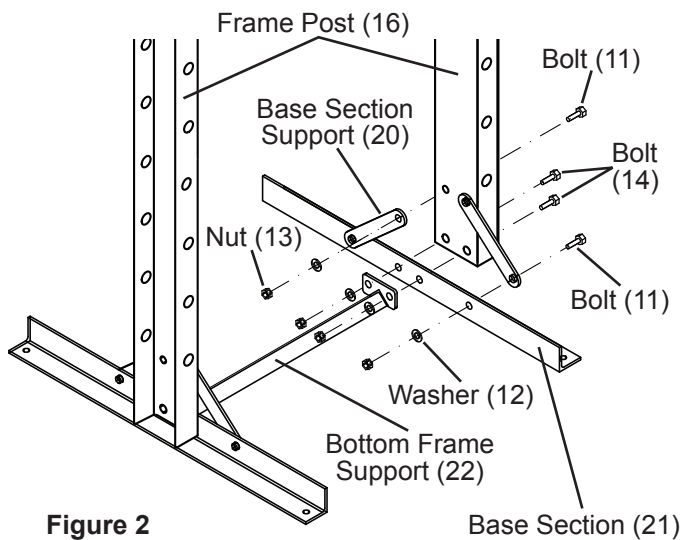
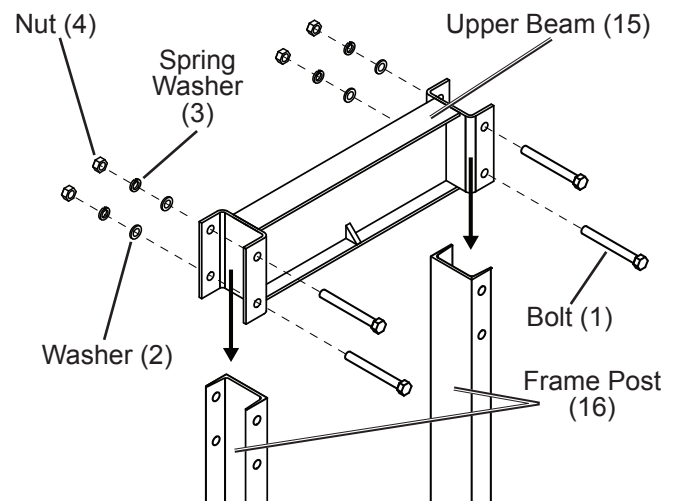

Figure 2
Figure 3
2. Attach the Base Section Supports (20) to the Frame Posts and Base Sections using the Bolts (11), Washers (12), and Nuts (13). See Figure 2.
3. Determine where the Shop Press will be located and bolt Base Sections (21) to the floor:
4. Align the holes on the Upper Beam (15) with the holes in the top of the Frame Posts (16) and secure in place with the Bolts (1), Washers (2), Spring Washers (3), and Nuts (4). Align the Upper Beam with the bottle jack bracket and spring hangers on the bottom. Check that the assembly is square, then finish tightening bolts. See Figure 3.